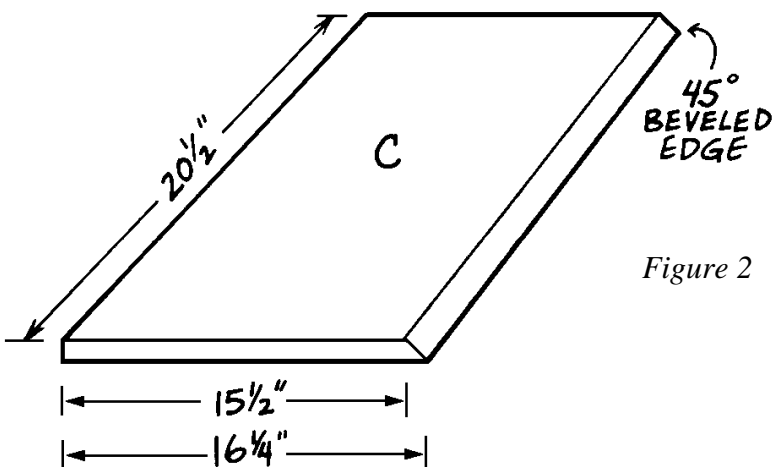

Figure 2
1. Cut two 16-1/4" x 20-1/2" sides (C) from $\frac{3}{4}$ "-thick plywood.
2. Bevel one 20-1/2"-long edge of each side (C) at a 45-degree angle, as shown in *Figure 2*.